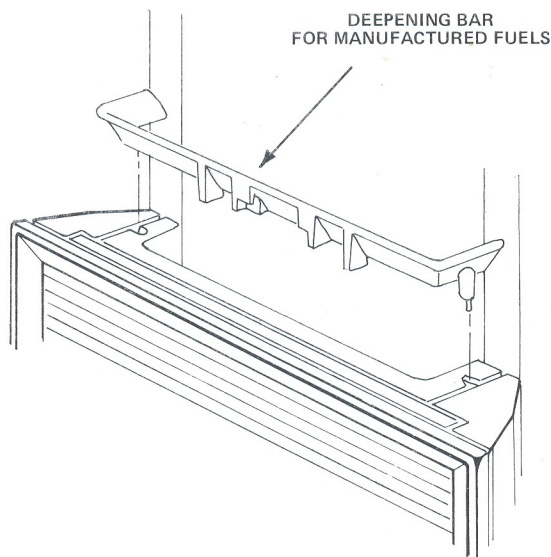

Fig. 2
- a) Decide what fuel you intend to burn and if Housecoal only, fit front deepening bar shown in Fig. 1. When using smokeless fuels, fit front deepening bar shown in Fig. 2.
Remember to replace the coal deepening bar with the smokeless deepening bar after returning to daytime use. See Fig. 2.